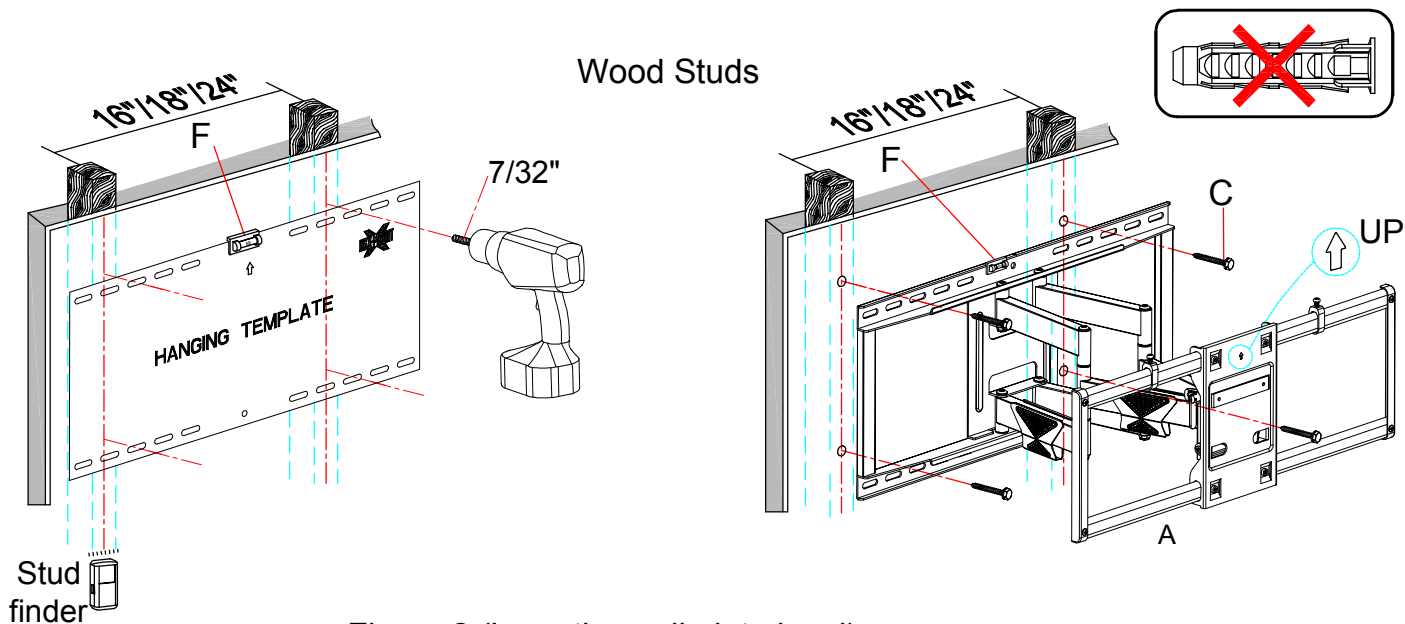

Figure 2 (keep the wall plate level)
**For wood studs:** If you mount TV mount into wood studs, hold mounting template at desired position of wood stud, pre-drill the mark 4 holes using 7/32" drill bit to a depth of 2.5", fix wall plate unit (A) to the wall with lag bolts (C). (Figure 2)